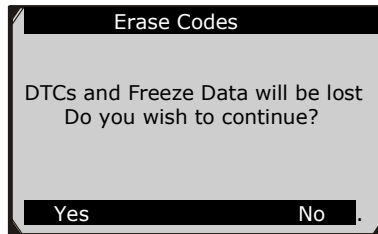

Figure 6.7
- If you press **Yes** function button or **OK** button, a warning message will come up asking your confirmation. (Figure 6.7)